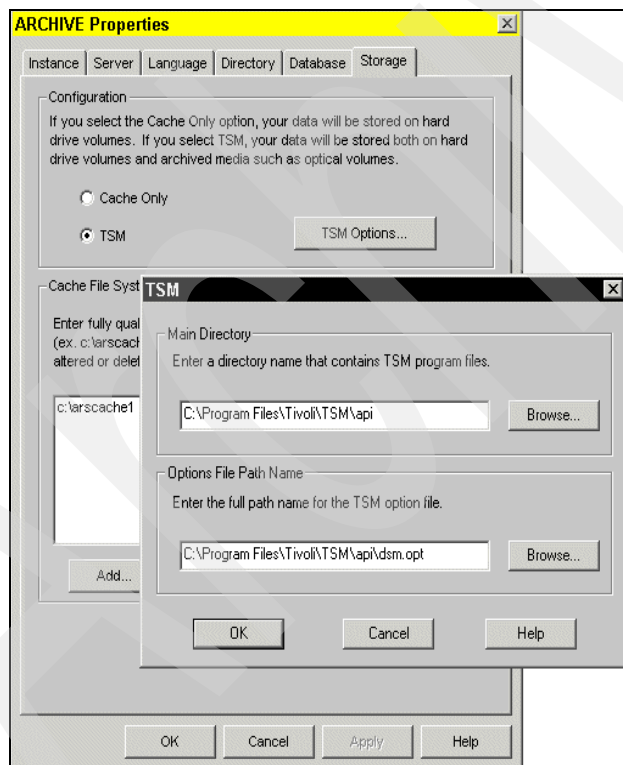

Figure 8-30 OnDemand for Windows configuration
- d. After selecting TSM, click **TSM Options**. Enter the path to the Tivoli Storage Manager program files directory of the Tivoli Storage Manager API and the path to the Tivoli Storage Manager options `dsm.opt` file, as shown in Figure 8-30. Click **OK**. On the Storage tab, click **Apply**.